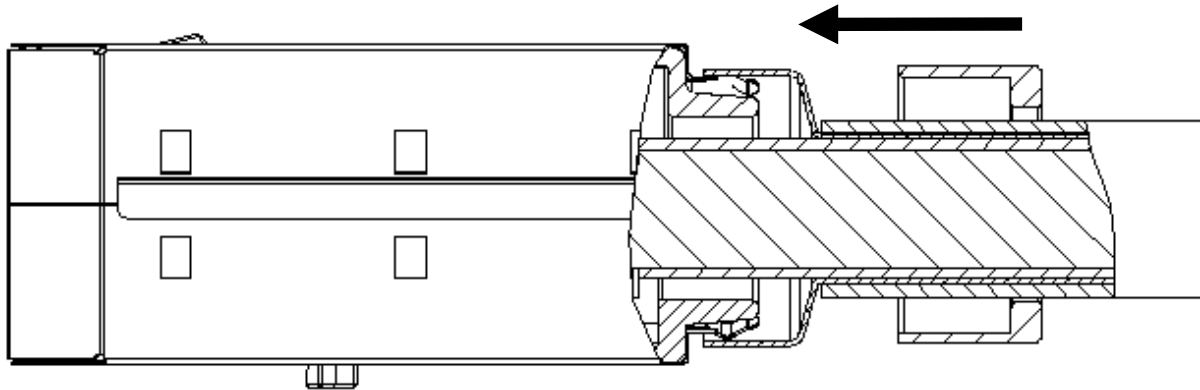

Figure 12: Assembly shield ferrule
- B. Push shielding ferrule over tails of lower shield and upper shield as shown in figure12